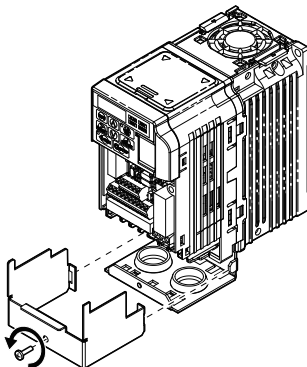

Figure 8 Remove the NEMA Type 1 Terminal Cover
6. For IP20/NEMA Type 1 enclosure models CIMR-V□□A□□□□□F, loosen the screw on the front of the NEMA Type 1 terminal cover and remove it from the drive. Refer to **Figure 8** for details.